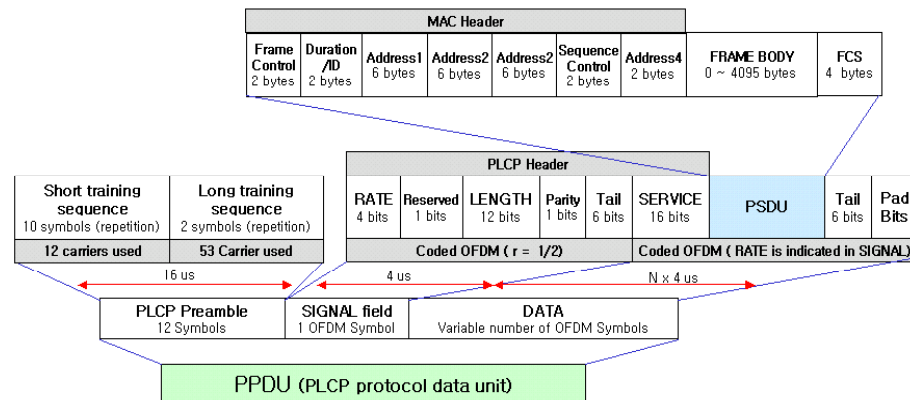

Fig. A-23 Data format of 802.11a signal
**Number of PSDU Bits/Symbols:** Fig. A-23 describes the signal frame structure of an 802.11a signal. The number of PSDUs varies with the data rate and is specified in SIGNAL field.